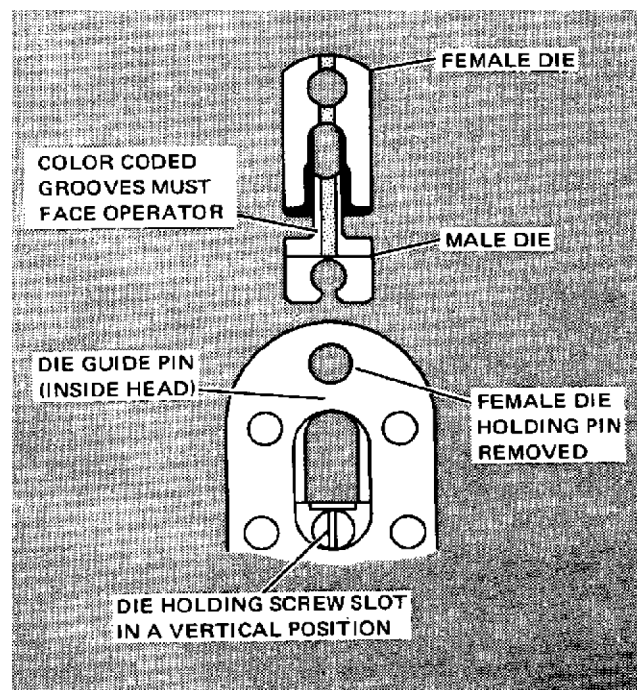

Figure 4
2. Each set of dies consists of a male die and a female die. See Figure 4.
3. Pull female die holding pin out of tool. Close handles until male die holding screw is visible. See Figure 4.
4. Turn die holding screw slot in a vertical position. See Figure 4.
1. Each set of dies consists of a male die and a female die. See Figure 4.
4. With take-up lever depressed, turn die holding screw slot in a vertical position. See Figure 4,